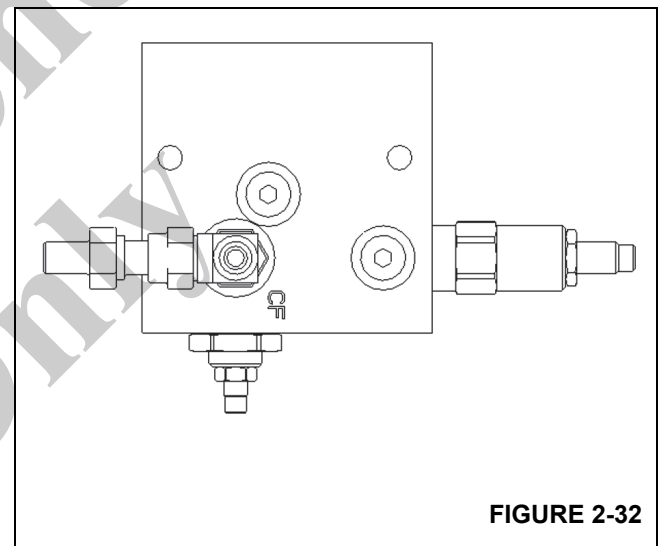

FIGURE 2-32
1. Attach pressure gauge at quick disconnect in CF port Figure 2-32. Make sure that machine is up to operating temperature then unplug oil cooler valve solenoid (located near oil cooler fan motor) to assure fan is running at full speed.